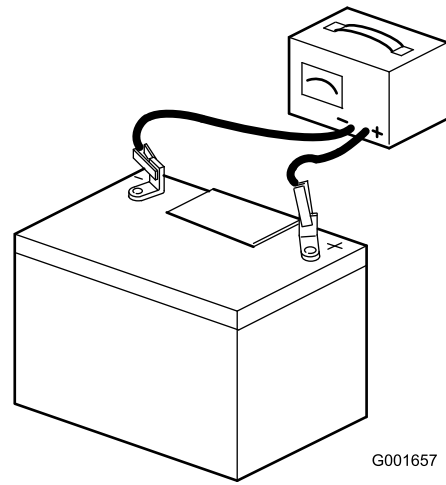

Figure 37
- When the battery is fully charged, unplug the charger from the electrical outlet, then disconnect the charger leads from the battery posts (Figure 37).